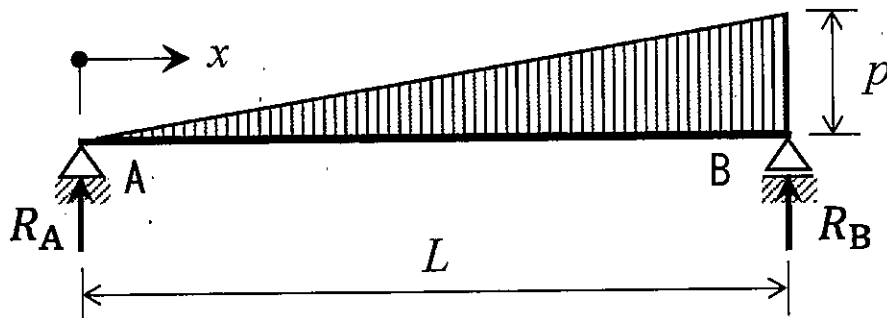

Fig. S-1 A simply supported beam subjected to triangle distributed load
1. Fig. S-1 に示す三角形分布荷重を受ける単純支持ばりについて、次の問い 1)~4)に答えよ。
Answer the following questions 1) to 4) about a simply supported beam subjected to triangle distributed load shown in Fig. S-1. The bending stiffness of this beam is EI .